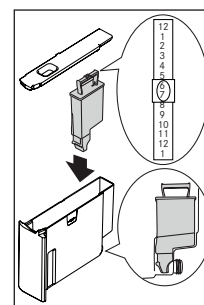

Fig. 37
- ▶ Slide the pointer of the date indicator (see Fig. 37) until the months of use are displayed (the filter lasts about 2 months).
- ▶ Insert the filter in the water tank and press it until it touches the bottom of the tank (see Fig. 37).